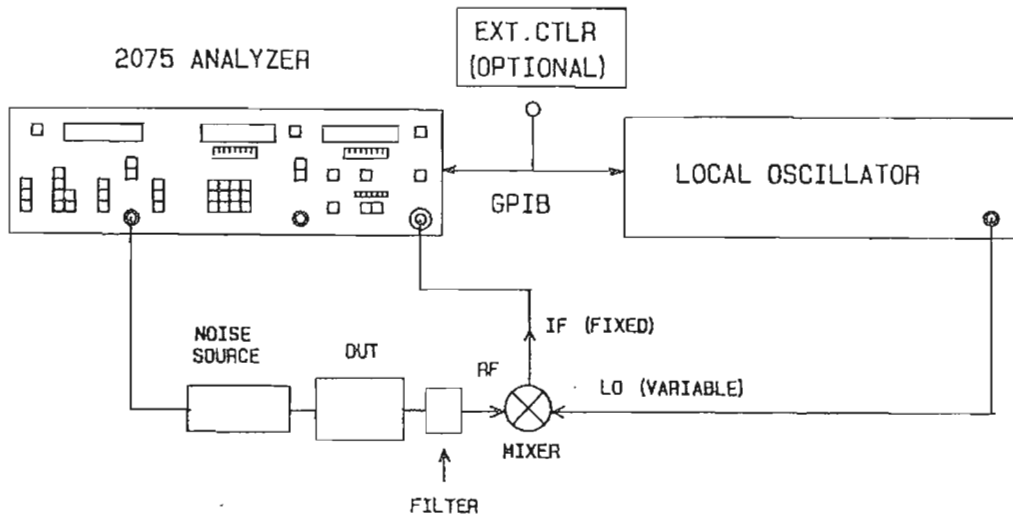

Figure 3-8b. TEST CONFIGURATION 2 MEASUREMENT (SINGLE SIDEBAND)
- Insert the Device Under Test into the setup, as shown in Figure 3-8b. If external relays are being used, ignore this step. Upon completing the calibration, the 2075 removes the actuating voltage from the relays to place the DUT in the measurement path (unless Special Function 10.1 has been activated).